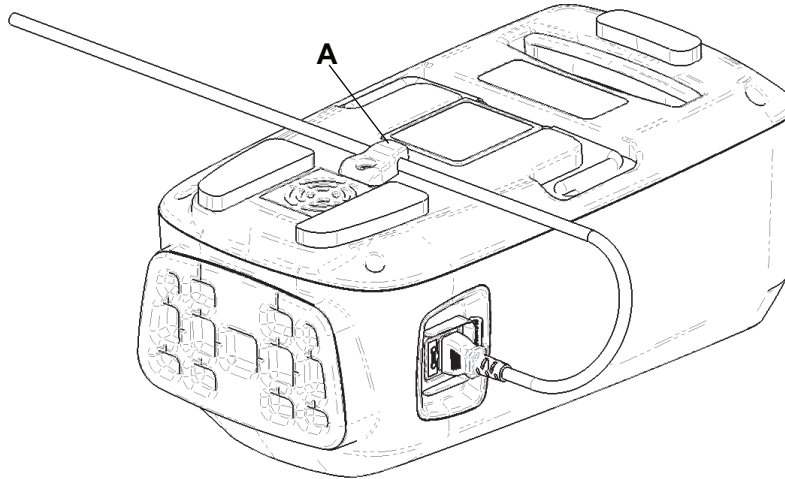

Figure 1 – Cord retention flex grip
3. Insert the power cord under the power cord retention flex grip (A) (Figure 1).